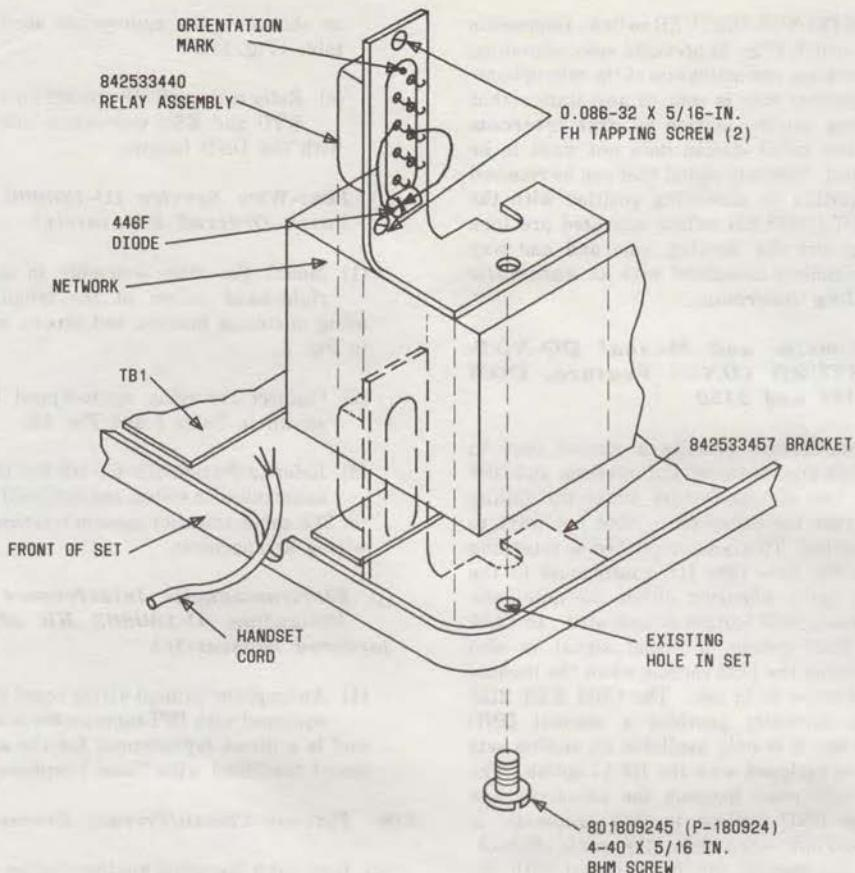

Fig. 5—♦Mounting Location for 4-Wire Relay Assembly♦
- (1) Mount the relay assembly in the front right-hand corner of the telephone set using mounting bracket and screws as shown in Fig. 5.